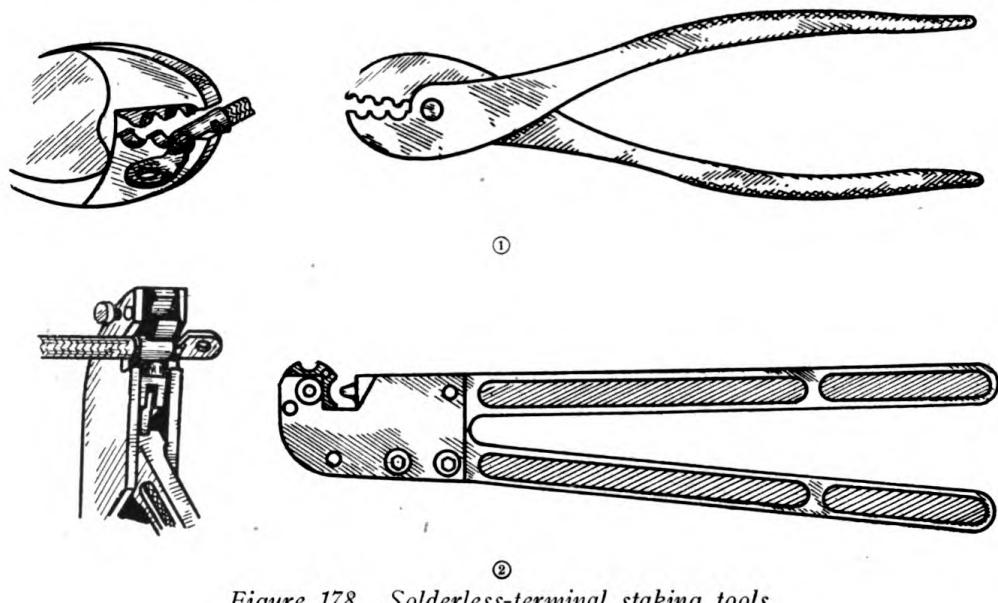
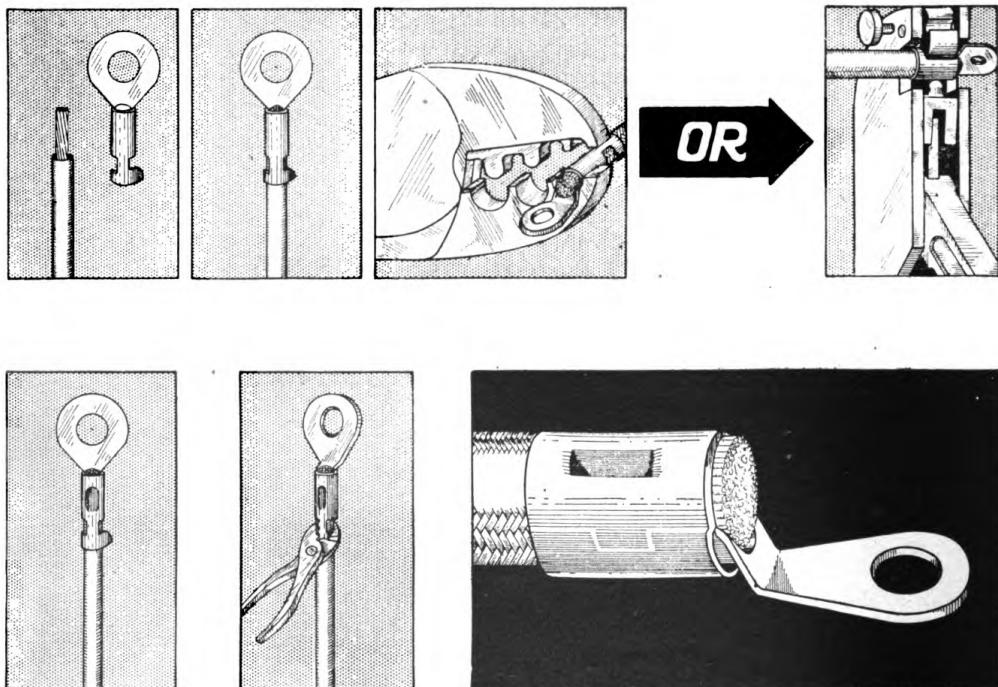

Figure 178. Solderless-terminal staking tools.
Figure 179. Method of installing solderless terminals.
f. SOLDERLESS TERMINAL-STAKING TOOLS. These tools are used to install solderless electrical terminals. Two types are shown in Figure 178. The tool shown in figure 178① is used to install terminals on No. 10 or smaller wire. Terminals are installed on No. 8 or larger wire with the tool shown in figure 178②. To install a terminal (fig. 179), skin the